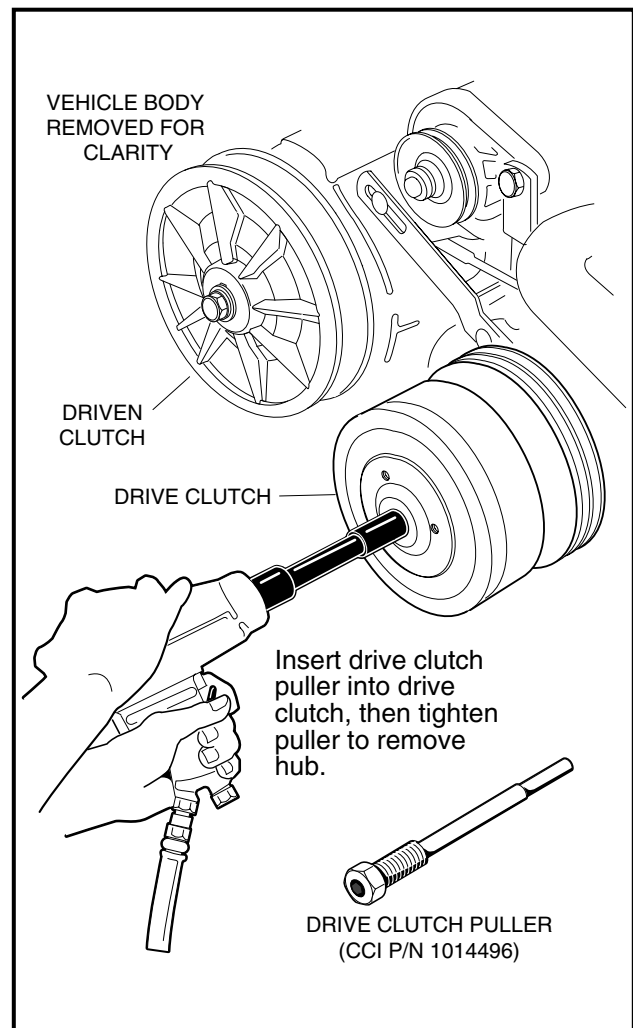

Figure 17-4 Drive Clutch Removal
8. Use a 1/2-inch socket to tighten the clutch puller tool. The drive clutch will release free of the crankshaft (**Figure 17-4, Page 17-5**).